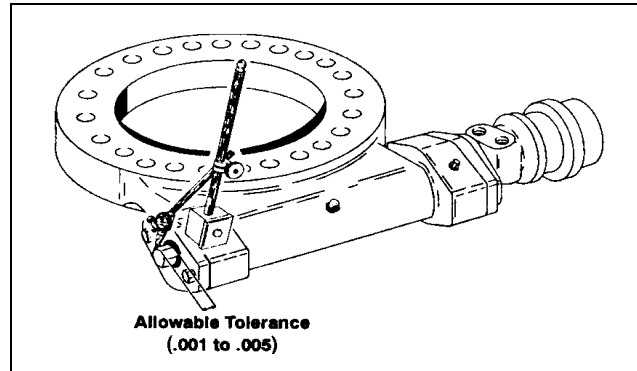

Figure 2-34. Worm Gear Tolerance
2.17 DRIVE TORQUE HUB. (SEE FIGURE 2-34)